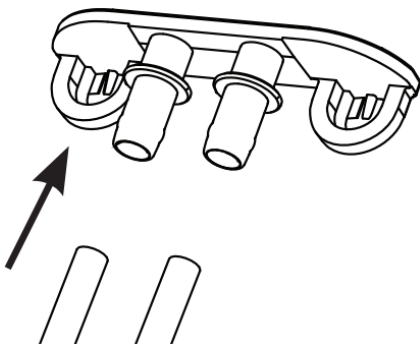

Figure 7
11. Remove the plugs and allow the water to completely drain. See figure 7.